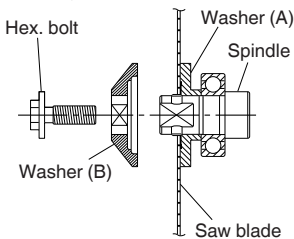

Fig. 29
- (1) Thoroughly remove any sawdust which has accumulated on the spindle, bolt and washers.
- (2) As shown in Fig. 29, the side of Washer (A) with a projected center the same diameter as the inner diameter of the saw blade and the concave side of Washer (B) must be fitted to the saw blade sides.
- (3) To assure proper rotation direction of the saw blade, the arrow direction on the saw blade must coincide with the arrow direction on the saw cover.
- (4) Using the fingers, tighten the hex. bolt retaining the saw blade as much as possible. Then depress the lock lever, lock the spindle, and thoroughly tighten the hex. bolt.